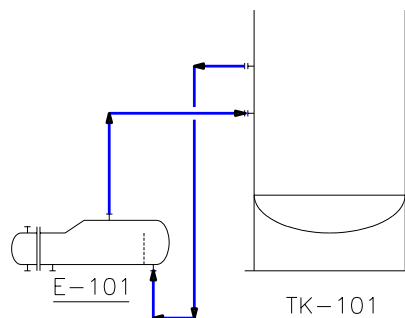

Figure 2-48 Line connecting the vessel and the bottom nozzle of the heat exchanger
10. Invoke the **Primary Line Segment** tool from the **Lines** tab of the **TOOL PALETTES** and connect the vessel to the nozzle located at the bottom of the heat exchanger. The line created should be similar to the one shown in Figure 2-48.